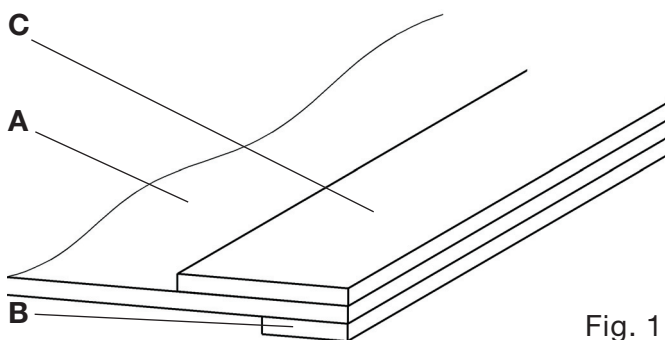

Fig. 1
- The guide edges **6** and **9** must be set so that the edges of the sewn material **A**, filler tape **B** and binding tape **C** flush (see Fig. 1 and Chapter 3).